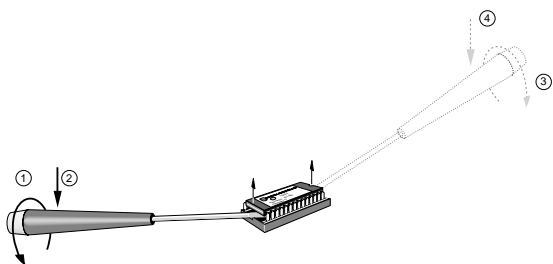

FIGURE 5. Removing the PROM with a Screwdriver
- a) Insert the end of a small flat-bladed screwdriver underneath the PROM, then gently rotate the screwdriver to slightly lift the PROM from the PROM socket (① on Figure 5).
- b) Gently pry up the end of the PROM to about 1/8" off the socket (② on Figure 5).
- c) Move the screwdriver to the other end of the PROM and perform the same procedure (③ and ④ on Figure 5).